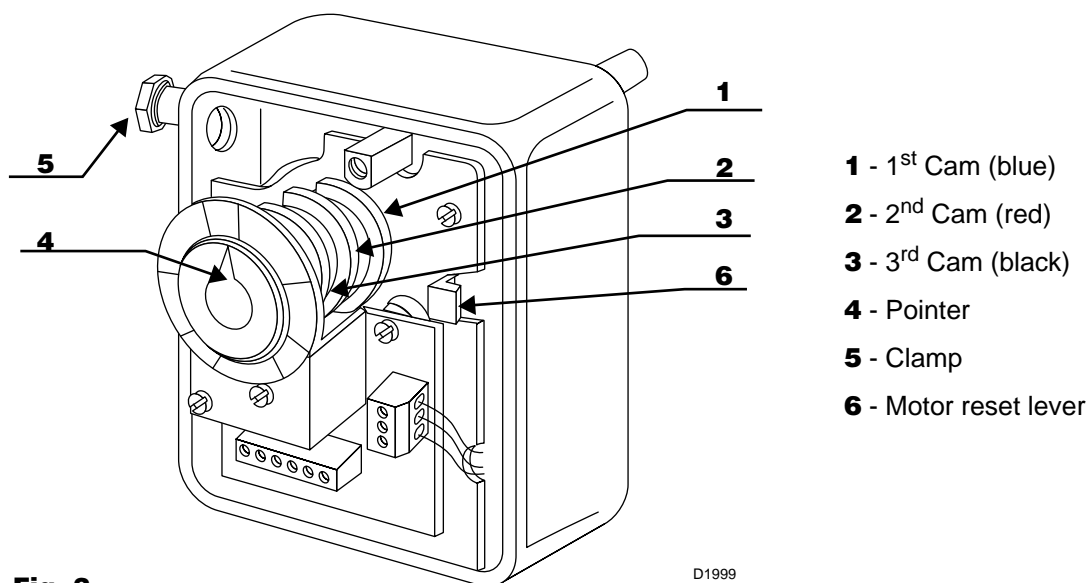

Fig. 2
- Acting on the re-set lever 6) fig.2 disjoin the cam 1) fig.5 from the motor of the servomotor.
With the burner in operation, switch off the elec. supply of the servomotor and re-set it by acting on the lever (6) (fig. 2).